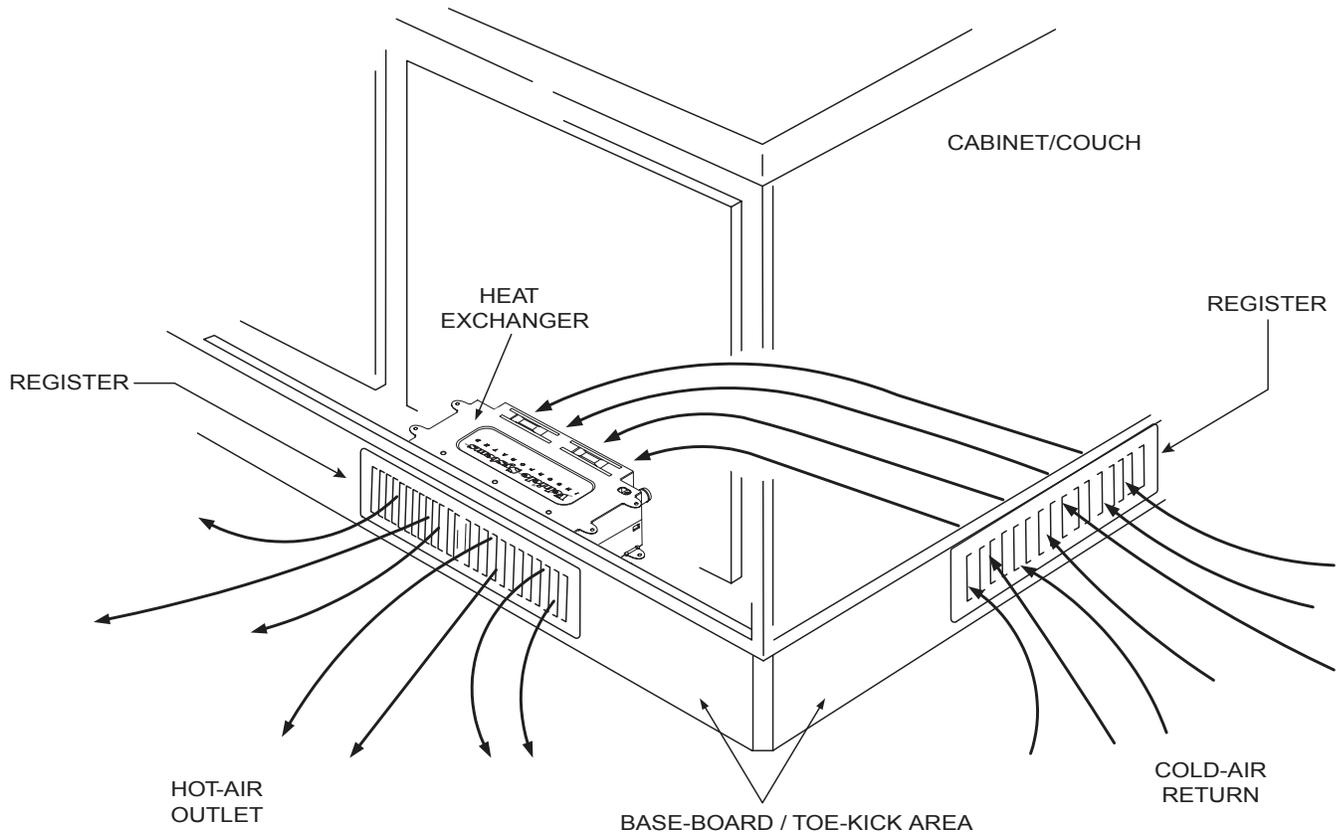

Figure 8
Once all permanent mounting locations have been selected, cut out the opening for each hot-air and cold-air register and fasten each Heat Exchanger permanently in place. Please reference Figure 8 for suggested Heat Exchanger mounting locations.
3. Install the hot-air outlet and cold-air return registers; reference Figure 8.
Once a permanent mounting location for the Fresh Water Tank Heat Exchanger has been selected, fasten the Heat Exchanger permanently in place. Please reference Section 3.6 and use Figures 8, 10, 11, 12, and 13 for mounting information.